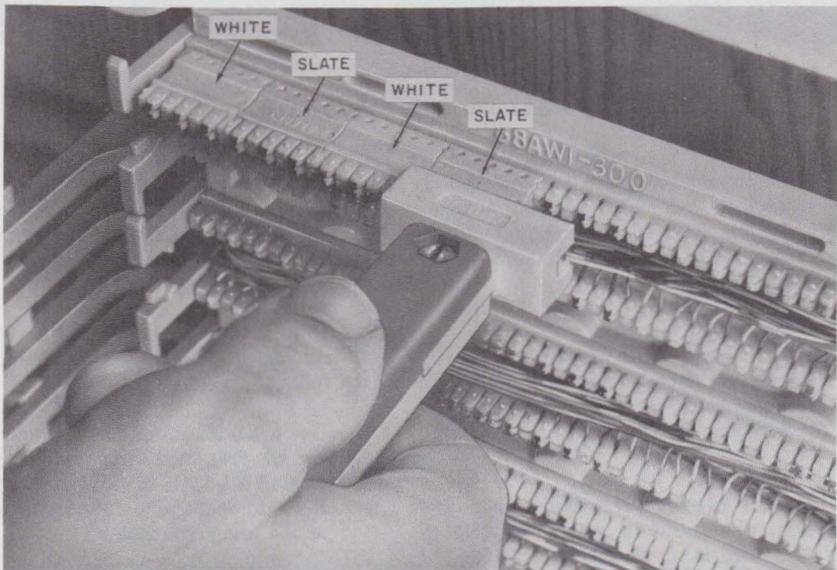

Fig. 19—Seating Connecting Block on Index Strip
3.17 The slate-white 88-type connecting blocks aid in pair identification. Place the blocks on the index strip starting with the white side up at the extreme left and alternating slate and white sides for the remainder of the strip (Fig. 19). Use the 5-pair connecting block where it is desirable to identify even-count color groups. Use the 3-pair blocks where the six leads of key system line circuits are terminated such as in the blue field. Place blocks only as required.